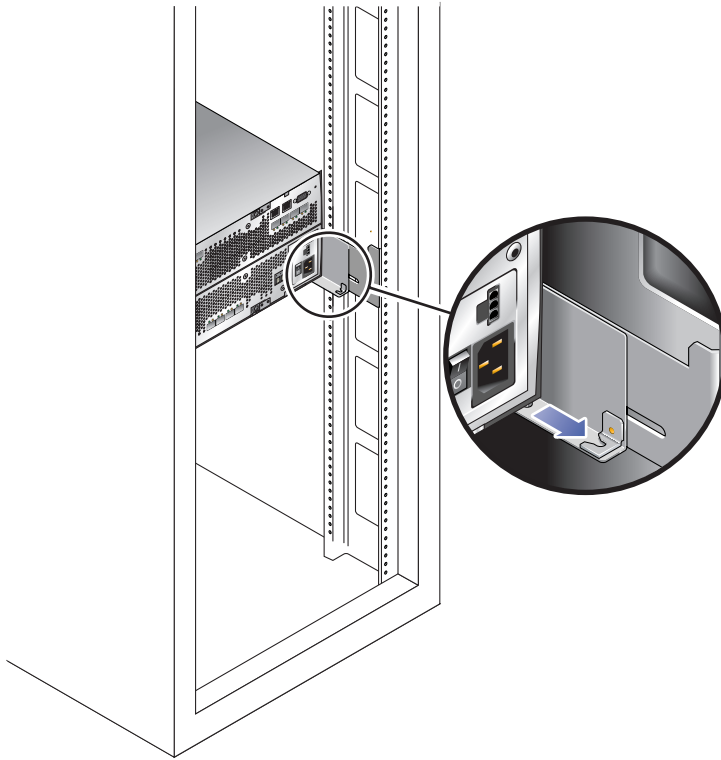

FIGURE 2-14 Securing the Tray to the Back of the Cabinet Rail
3. Install and tighten the screw on each side of the back of the tray to secure the tray to the cabinet (FIGURE 2-14).